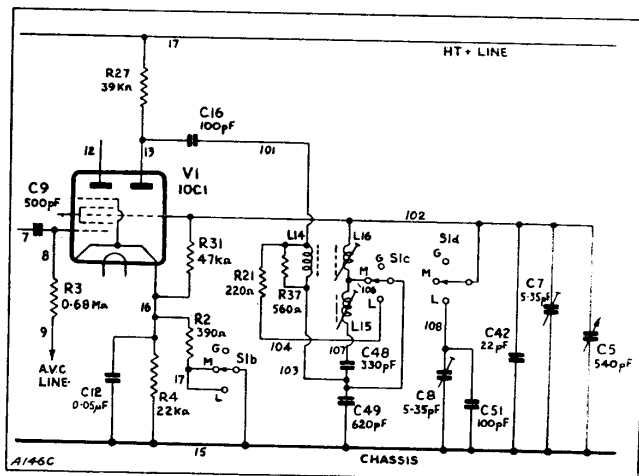
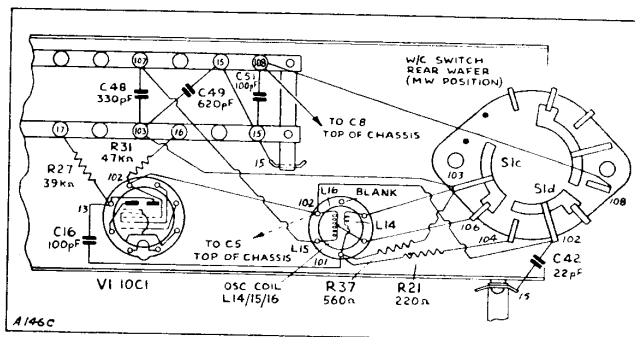

Fig. 15
Fig. 16
**The oscillator circuit.** This was modified in later receivers to increase the medium wave band coverage at the high frequency end and to reduce inter-action between the medium and long wave sections of the oscillator coil during circuit alignment. The revised circuit and wiring are illustrated in Fig. 15 and Fig. 16 respectively. A tuned grid arrangement with separate coupling coil has been adopted for both wavebands.
the items listed below figure 16 will be required.
In carrying out the modification C15, C17, C18, C19, R5, and the original oscillator coil (L5, L6), are completely removed, while R31 (the oscillator grid leak) and R27 are repositioned on the chassis as shown in Fig. 16.